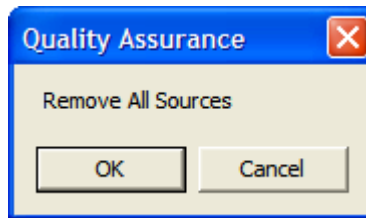

Figure 5-23
7. Click the **Start Procedure** button or press *Alt+S* to start the test. The screen appears as shown in Figure 5-23.